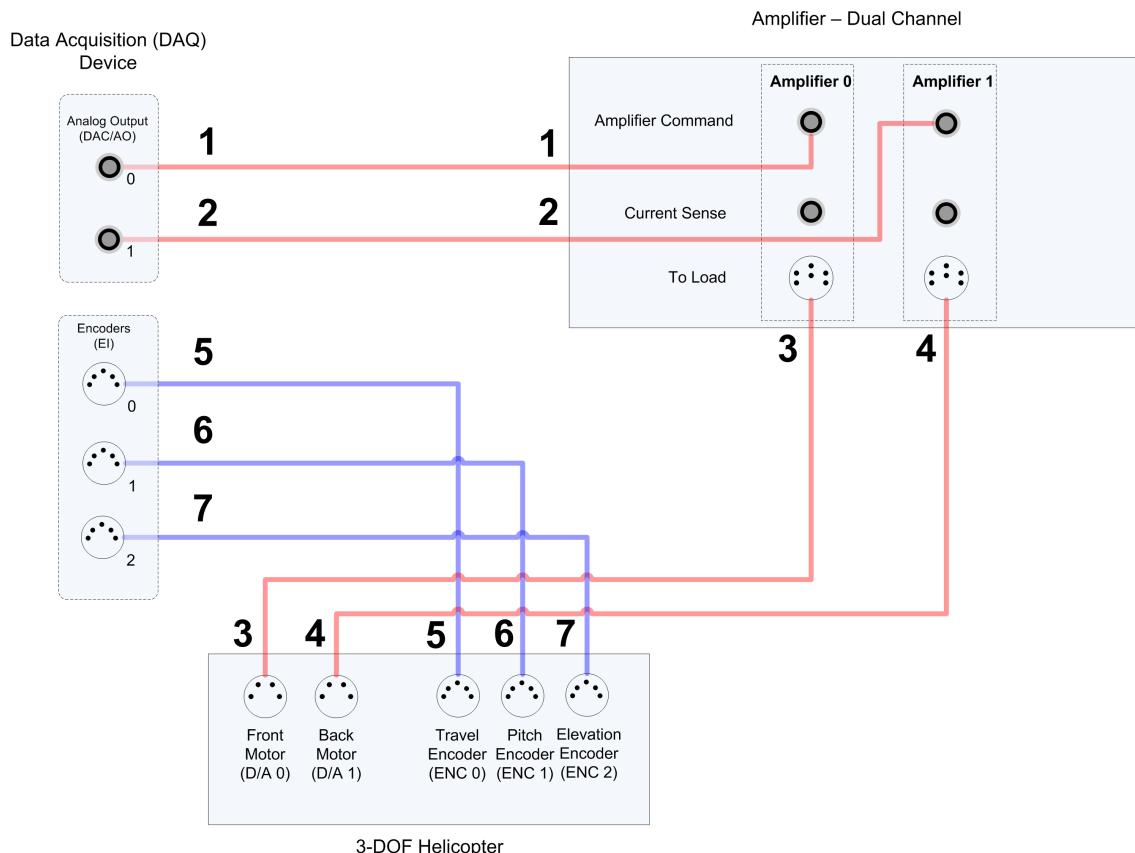

Figure 3.9: 3 DOF Helicopter connection diagram
This section describes the typical cabling connections that are used by default for the Quanser 3 DOF Helicopter system. The travel, pitch, and elevation encoders are connected directly to the data-acquisition board. This provides the position feedback necessary to control the helicopter. The data-acquisition board, i.e., DAQ board, outputs a control voltage that is amplified and drives the front and back motors. Both motors are driven by a power amplifier, e.g. such as the Quanser VoltPAQ-X2 or two VoltPAQ-X1 systems. Figure 3.9 illustrates the wiring between the two-channel data-acquisition device, the 3 DOF Helicopter base, and a two-channel amplifier. These connections are described in detail in Section 3.2.1 and summarized in Table 3.1.
**Note:** Your configuration may be different. For instance, you may have a DAQ with more IOs than the one presented in Figure 3.9 or have two single-channel amplifiers that do not require any E-Stop (in which case you would omit connection ).
3. Connect the 2xRCA to 2xRCA cable from the *Analog Output Channel #0* on the terminal board to the Amplifier 0 *Amplifier Command* connector. This is illustrated by connection #1 in Figure 3.9.
4. Connect the 2xRCA to 2xRCA cable from the *Analog Output Channel #1* on the terminal board to the Amplifier 1 *Amplifier Command* connector. This is illustrated by connection #2 in Figure 3.9.
5. Connect a 4-pin-DIN to 6-pin-DIN cable from the Amplifier 0 *To Load* connector to the *Front Motor (D/A 0)* connector on the 3 DOF Helicopter plant. This is illustrated by connection #3 in Figure 3.9.
6. Connect a 4-pin-DIN to 6-pin-DIN cable from the Amplifier 1 *To Load* connector to the *Back Motor (D/A 1)* connector on the 3 DOF Helicopter plant. This is illustrated by connection #4 in Figure 3.9.
7. Connect a 5-pin-stereo-DIN to 5-pin-stereo-DIN cable from the *Encoder 0* connector on the terminal board to the *Travel Encoder (ENC 0)* connector on the 3 DOF Helicopter base. This is illustrated by connection #5 in Figure 3.9.
8. Connect another 5-pin-stereo-DIN to 5-pin-stereo-DIN cable from the *Encoder 1* connector on the terminal board to the *Pitch Encoder (ENC 1)* connector on the 3 DOF Helicopter plant. This is illustrated by connection #6 in Figure 3.9.
9. Connect another 5-pin-stereo-DIN to 5-pin-stereo-DIN cable from the *Encoder 2* connector on the terminal board to the *Elevation Encoder (ENC 2)* connector on the 3 DOF Helicopter plant. This is illustrated by connection #7 in Figure 3.9.
10. Connect the emergency stop switch to the E-Stop connector on the amplifier. This is illustrated by connection #8 in Figure 3.9.